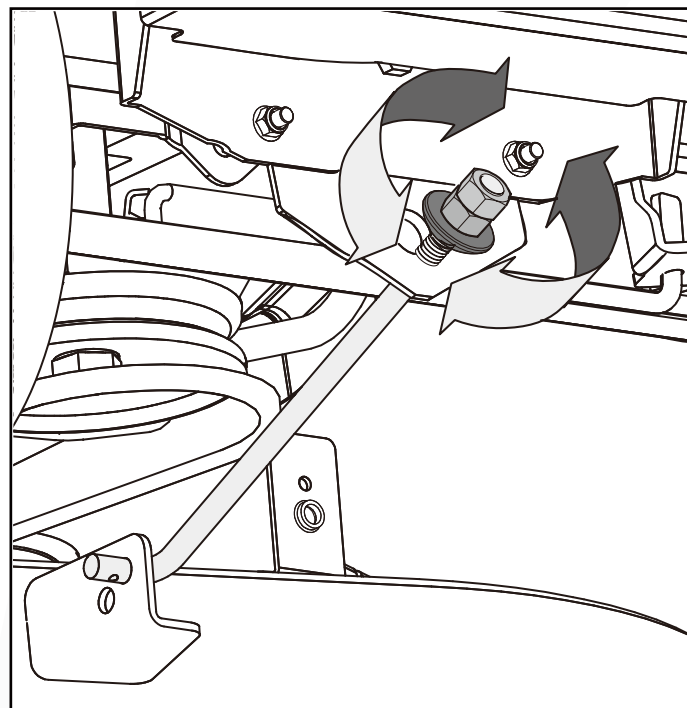

Fig. 30
3. If front-to-back adjustment is needed, after loosening the outer jam nut, turn the inner adjustment nut clockwise to raise or counterclockwise to lower the front of the cutting deck. (Fig. 30)
5. Without moving the inner adjustment nut, re-tighten the outer jam nut to secure the inner adjustment nut in place. (Fig. 30)